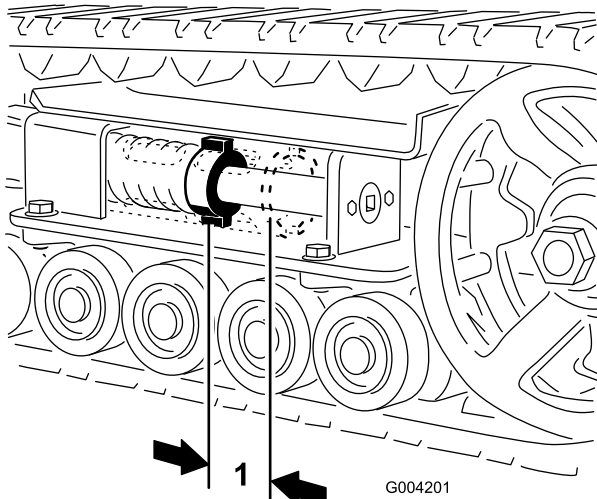

Figure 46
There should be 7 cm (2-3/4 inches) between the tension nut and the back of the tension tube (Figure 46). If not, adjust the track tension using the following procedure:
4. Using a 1/2 inch drive socket wrench, turn the tensioning screw counter-clockwise until the distance between the tension nut and the back of the tension tube (Figure 46) is 7 cm (2-3/4 inches).
11. Turn the tensioning screw counter-clockwise until the distance between the tension nut and the back of the tension tube (Figure 46) is 7 cm (2-3/4 inches).